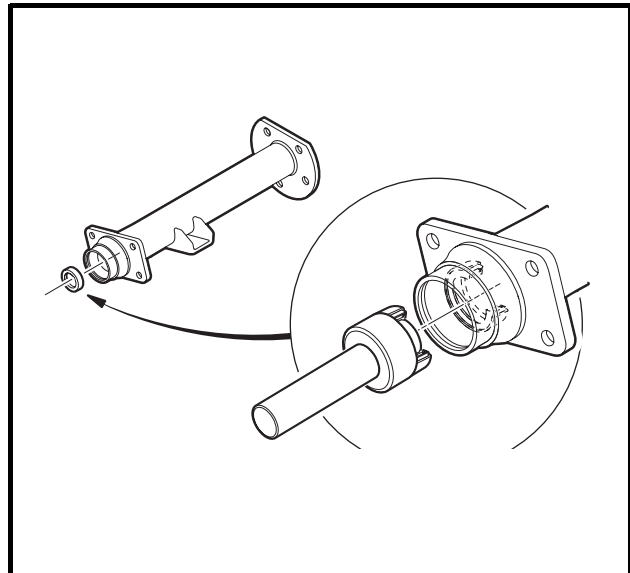

Figure 17-4 Axle Seal and Adapter Ring Installation
- 1.5. Place the oil seal and adapter ring assembly into the axle tube with the seal lip facing away from the bearing **(Figure 17-4, Page 17-2)**. Use an axle seal tool (CCI P/N 1014162) and mallet to tap it in until it seats firmly in position. **See following CAUTION.**